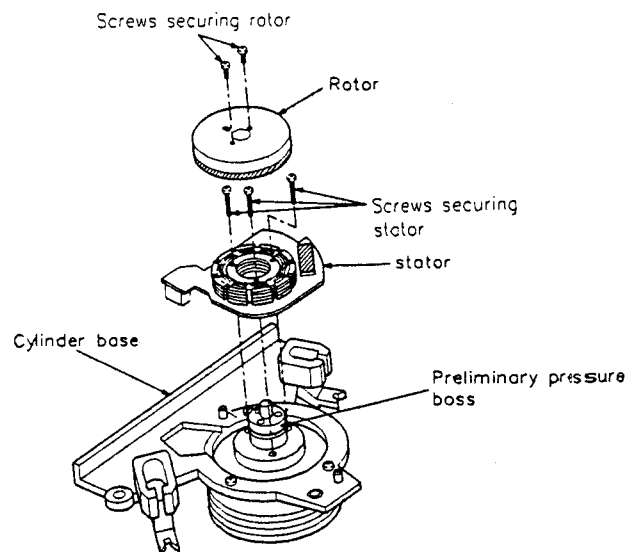

Fig. 4-2-4 Cylinder motor replacement
2. Remove two screws securing the rotor and remove the rotor. (Fig.4-2-4)